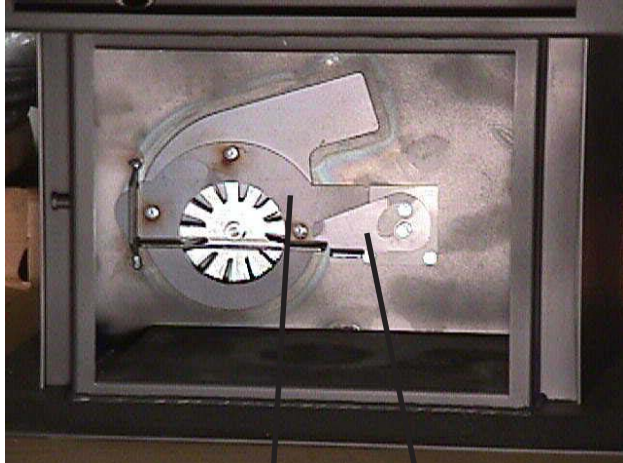
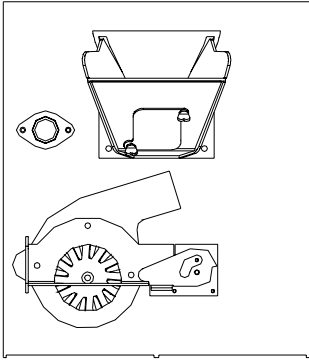
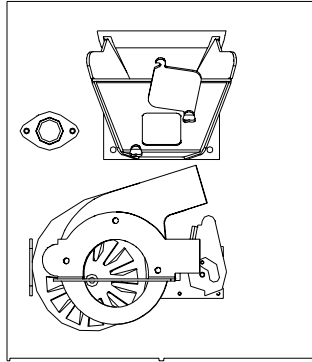

Fig. 24
Fig. 26
Fig. 27
3. Remove combustion blower cover by turning the latch vertical as shown in Fig.26 and sliding the cover out of the slot on the left Fig.27. This will expose the combustion blower wheel and flue outlet, Fig.24.